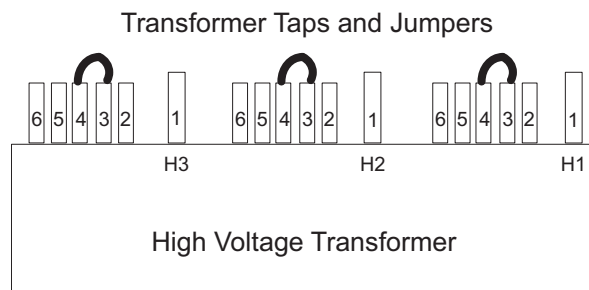

Figure 4-18 PDU Tap Positions (Rear)
- 2.) After you determine the nearest nominal line, verify the tap connections match (refer to Table 4-1 and Figure 4-18 for tap locations).